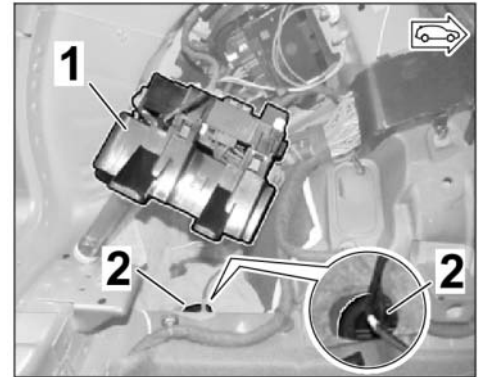

Figure 34
- 3.3.1 Loosen fuse box with holder in left rear boot and swivel it aside (⇒ *Figure 34*). ⇒ *Workshop Manual '978409 Loosening and securing fuse box in the luggage compartment'*